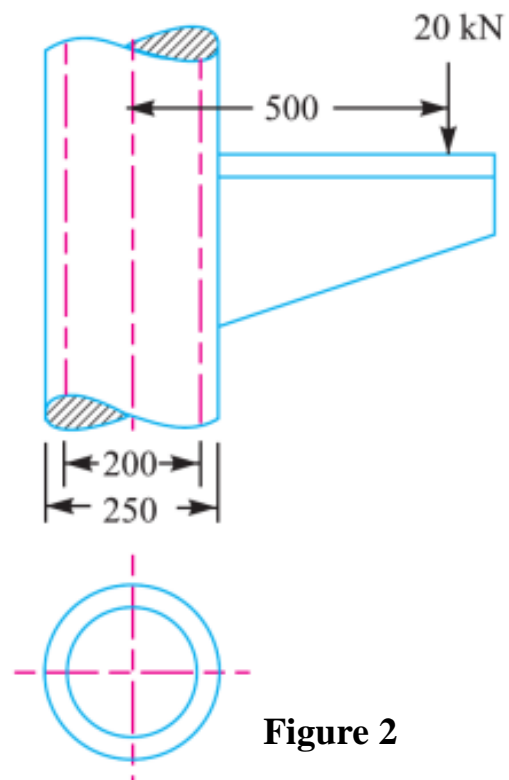

Figure 2
- 1B.** A hollow circular column of external diameter 250 mm and internal diameter 200 mm carries a projecting bracket on which a load of 20 kN rests, as shown in Figure 2. The center of the load from the center of the column is 500 mm. Find the stresses at the sides of the column. **(05)**